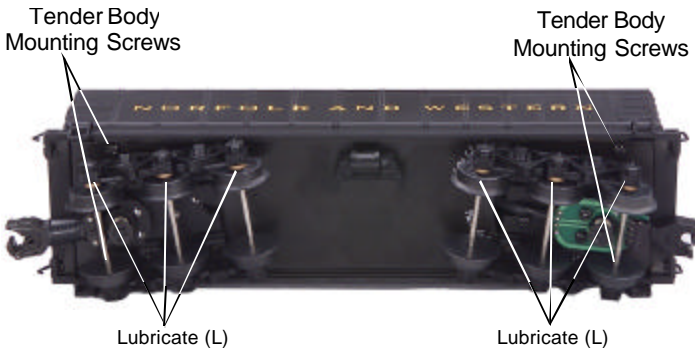

Fig. 2- Lubricating the Chassis and Location of Body Mount Screws
In order for the engine to perform correctly and quietly, it is important that the chassis be lubricated before operation. Lubrication should include all truck block bushings and pickup rollers to prevent them from squeaking. Use light household oil and follow the lubrication points marked "L" in Fig. 2 below.
- To remove the interior bulb, remove the shell by unscrewing the body mount screws as shown in Figure 2.